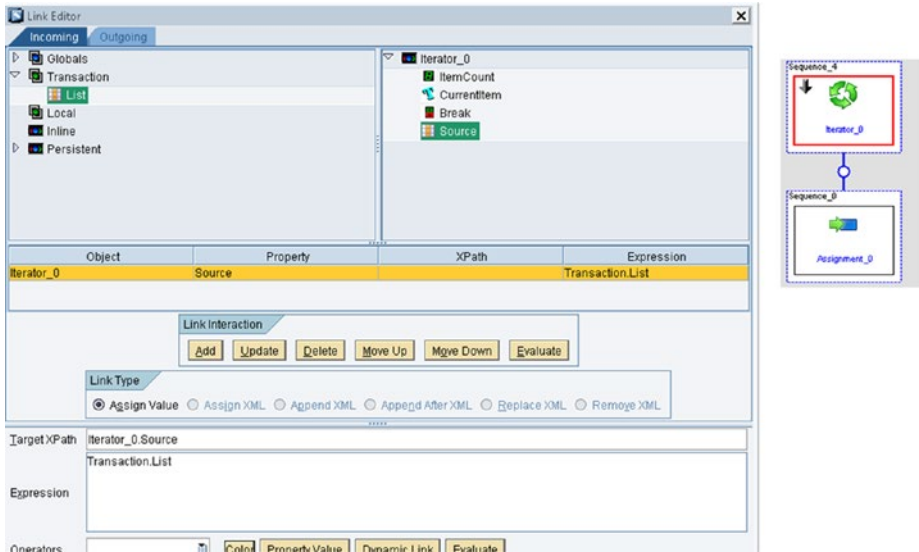

Figure 6-46. The Iterator action block
- *Iterator action block*: This is used to repeat the data of a list variable. It is like repeater but the repeater repeats in the XML node whereas this repeats on the list variable. It expects a list type variable for its input, as shown in Figure 6-46.